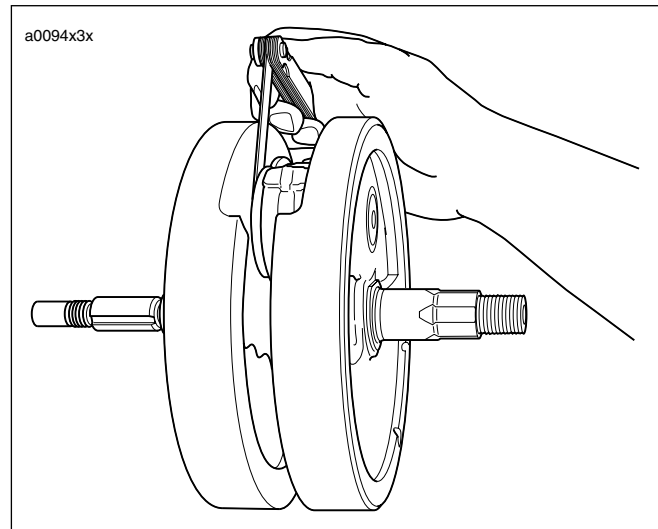

Figure 3-124. Checking Connecting Rod Side Play
1. See Figure 3-124. Check connecting rod side play with a thickness gauge as shown.